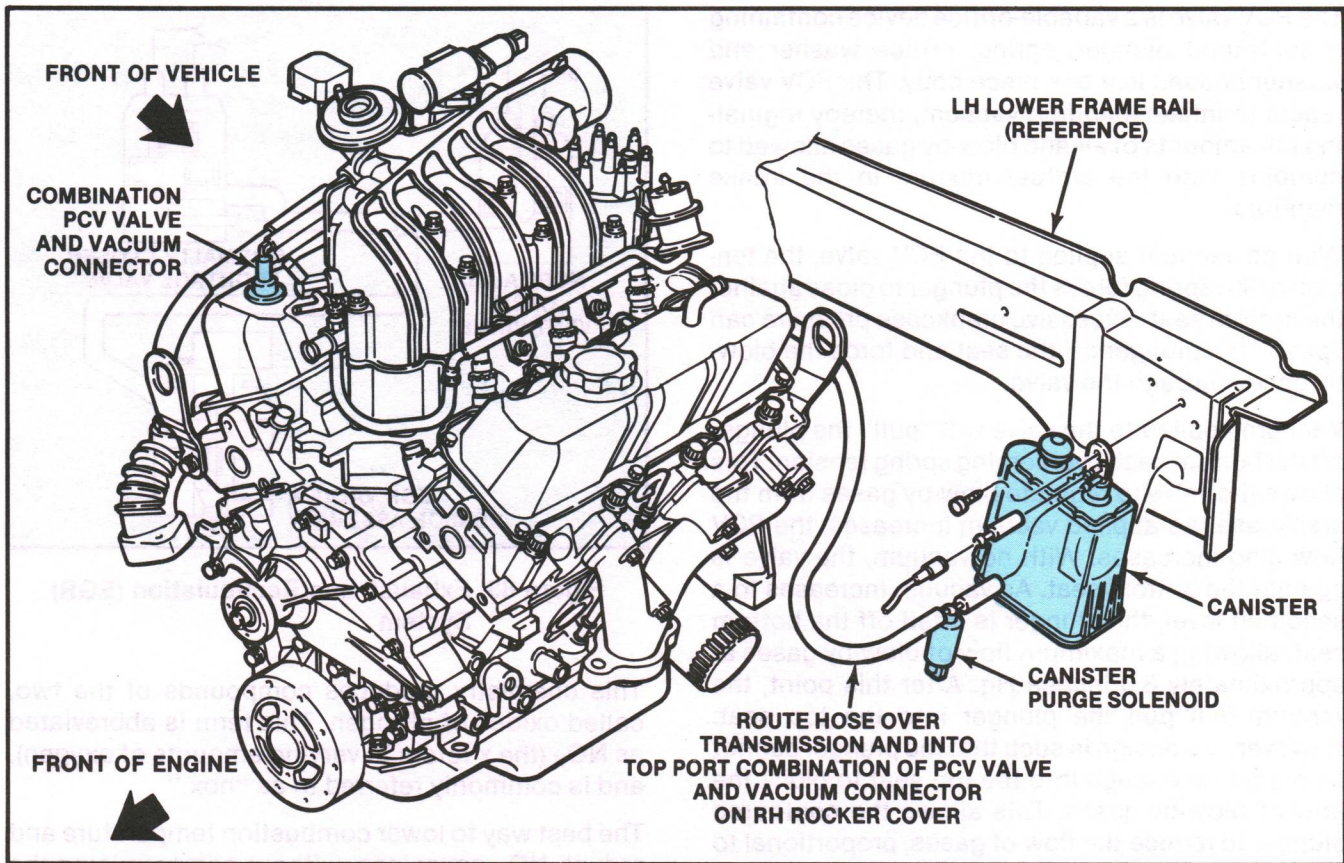

Figure 80. Typical Fuel Evaporative Emissions System—3.0L Taurus/Sable
The fuel evaporative emission system (Fig. 80) reduces the amount of raw fuel vapors (HC) that are emitted into the air from the fuel tank and carburetor (if so equipped).